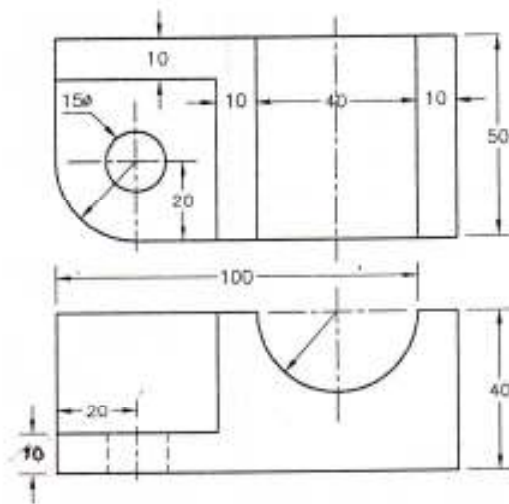

FIG. NO. 6
- (b) In **FIG. NO. 6**. two orthographic views are shown. Draw the isometric drawing from the views. **07**